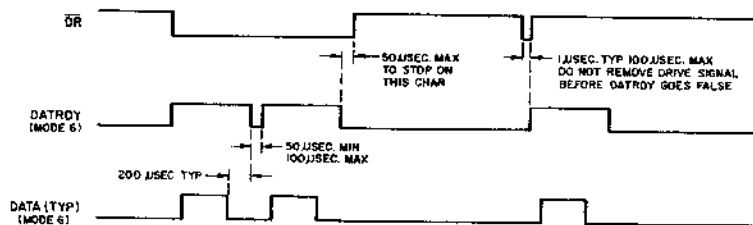

Figure 3-5. Timing Diagram for Reader
The following procedure should be followed when reading a tape. Refer to Figures 3-5 and 3-6 during the following descriptions.
- b. Apply the step pulse to the drive left (DL*) line, pin 17 of J2, or the drive right (DR*) line, pin 16 of J2 as follows. Make sure the Data Ready signal at pin 9 of J2 is in the true condition depending upon mode and that the (EXTINH)* input signal at J2, pin 15, is false ($+2.4 < V < +5.0$ or open circuited). See Table 3-1 and Figure 3-5.
- b. Apply the drive left (DL*) signal to pin 17 of J2 or the drive right (DR*) signal to pin 16 of J2 as required. Make sure the Data Ready signal at pin 9 of J1 is in the true condition depending upon mode and that the (EXT INH)* input signal at J2, pin 15, is false ($+2.4 < V < +5.0$ or open circuited). See Table 3-1 and Figure 3-5.